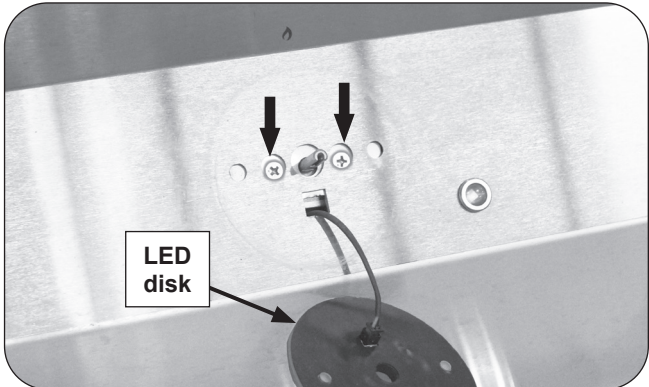

Fig. 1-1 Remove thermostat screws
2. Remove the control knob from the thermostat control stem. Then gently lift the LED disk from the stem and let it rest from the wire. See Fig. 1-1.
3. Using a Phillip's head screwdriver, remove the two thermostat screws from the control panel (the thermostat will drop). See Fig. 1-1.